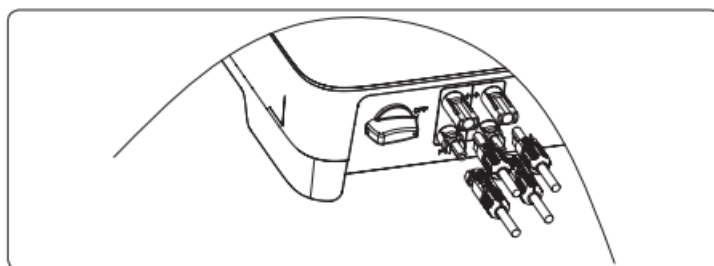

Figure 4-13
7. Insert the positive and negative connectors into the inverter DC input terminals respectively, a click sound should be heard if the terminals are well connected, as shown in Figure 4-13: